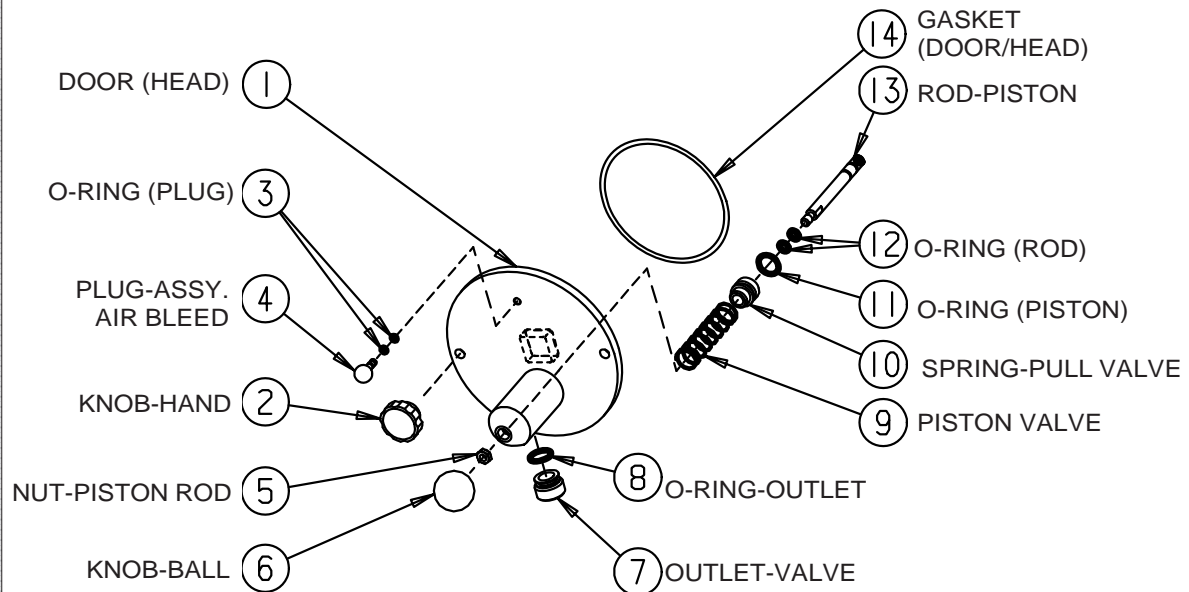
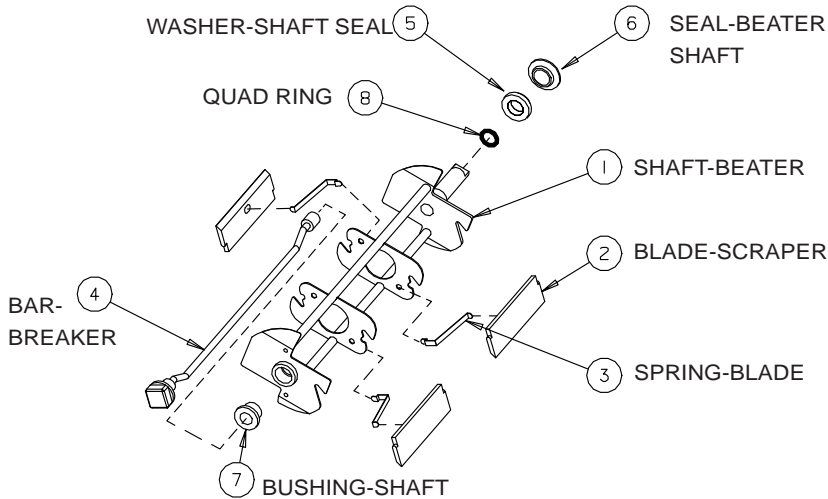
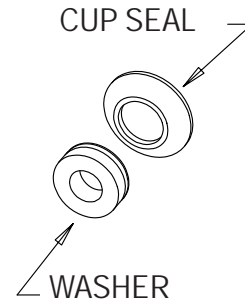

Figure 6-2 Door (Head) Assembly
Figure 6-3 Beater Shaft
Figure 6-4 Shaft Seal Assembly
1. Remove the two hand knobs (figure 6-2, item 2) and pull the dispensing door (1) straight out.
2. Remove the ball knob (6), nut (5), air bleed plug (4) and outlet valve (7) from the door (1).
3. Remove the piston assembly (10, 11, 12, 13) and spring (9) by pushing the piston rod (13) through the back of the door (1).
4. Remove the o-rings (11, 12) from the piston assembly. Remove the o-ring (8) from the outlet valve (7). Remove two o-rings (3) from the air bleed plug (4).
5. Remove the door gasket (14) from the door (1).
6. Remove the beater shaft (figure 6-3, item 1) from the cylinder.
7. Remove scraper blades (2), springs (3), seal (5 and 6), quad ring (8), breaker bar (4), and bushing (7) from the beater shaft (1).
8. Remove the cup seal from the plastic washer on the shaft seal assembly as shown in figure 6-4.